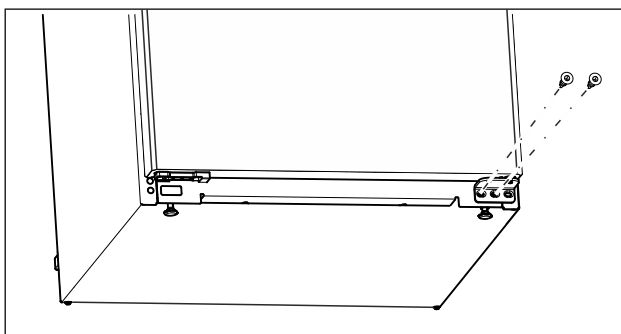

Fig. 10
- Unscrew the middle screw on the lower swap bearing block with a Torx 20 screwdriver. (see Fig. 10)
- Unscrew the inner screw on the lower swap bearing block with a Torx 20 screwdriver. (see Fig. 10)